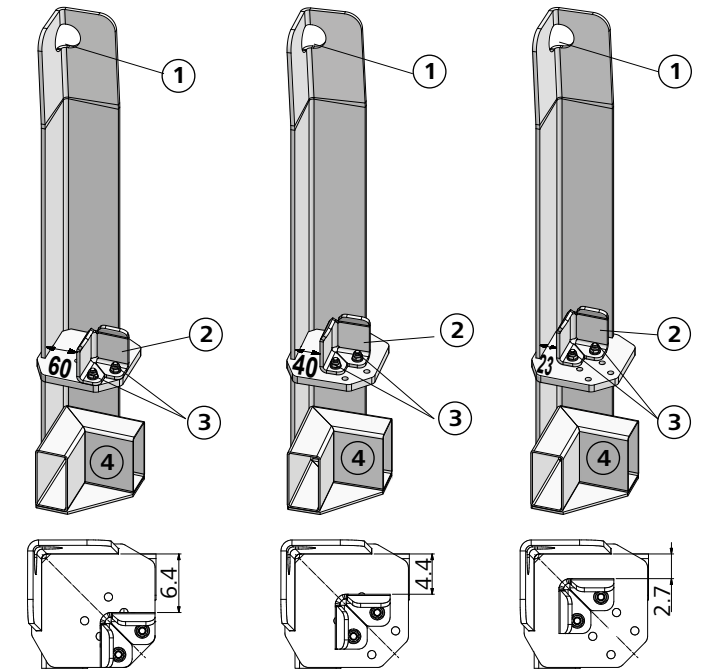
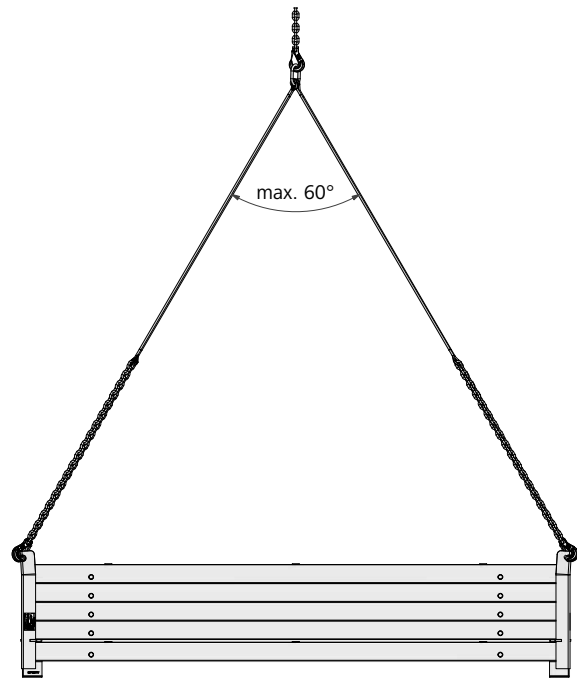

Fig. 1
Fig. 3: maximum opening angle 60°
- During the lifting process (Fig. 3) ensure that the load does not swing to and fro or strike other parts. The tips of load hooks must not be subject to load and must move freely in the attachment eyelet ①.
The stacking angle 60/40/23 is used to move and store Mammut XT, Mammut 350, StarTec XT, StarTec, AluStar, EcoAs and AluFix wall formwork panels of the same size. Four stacking angles 60/40/23 are required for each application as a unit. The stacks are moved individually using a crane sling (Fig. 3) or a forklift truck. They are used as lifting devices between the crane and the load. A minimum of two wall formwork panels are to be used, whereby one panel lies on the hollow profiles ④ with the facing side upwards and the second panel lies on the plate with adjustable bracket ② located above this. A maximum of five wall formwork panels may be used for each transport unit (Fig. 3). With a profile height of 10 cm (EA/AF), 6 panels may be transported/picked up, provided the maximum load capacity per set of 4 is not exceeded. The adjustable bracket must be bolted in the specified position (Fig. 1). A load hook of a 4-rope crane sling is attached to the attachment eyelet ① of each stacking angle. During use, the stacking angle 60/40/23 remains attached to the formwork at all times.
Set the adjustable bracket ② on the stacking angle 60/40/23 to suit the panel frame width in question (EA/AF = 23 mm, AS/ST/ST XT = 40 mm, M / M 350 / M XT = 60 mm) (Fig. 1). Insert a stacking angle 60/40/23 at each corner of the wall
Attach the crane sling's load hook to the attachment eyelet ① on the stacking angle 60/40/23 so that it cannot slide out of the eyelet when a rope or chain is slack (Fig. 3).